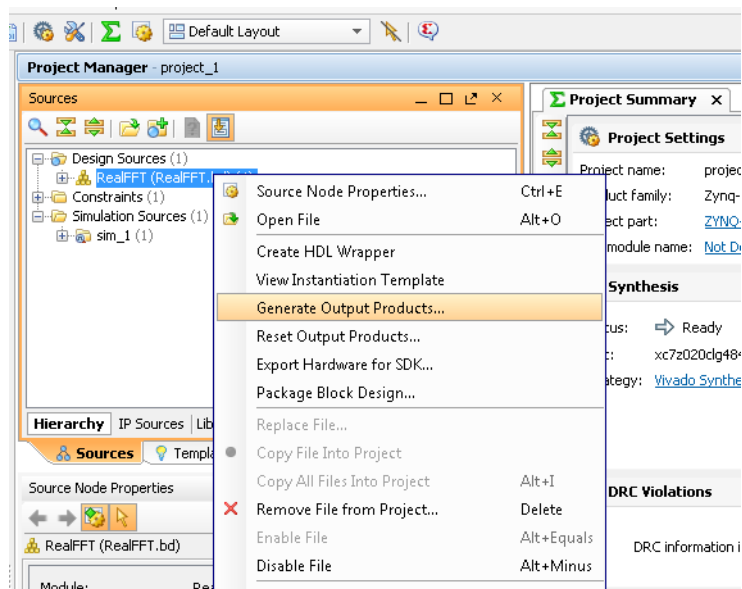

Figure 9-23: Generating Output Products
- a. In the Sources tab of Project Manager pane (Figure 9-23), right-click RealFFT.bd and select **Generate Output Products**.